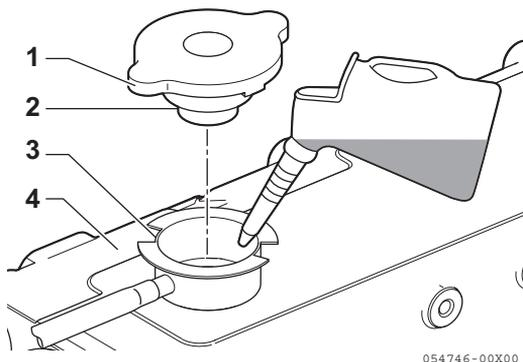

Figure 12
3. Pour coolant slowly into coolant tank (Figure 12, (4)) to avoid air bubbles. Fill until coolant overflows from the filler port.
4. Align filler cap tabs (Figure 12, (1)) with filler port notches (Figure 12, (3)) and tighten filler cap (Figure 12, (2)) firmly.